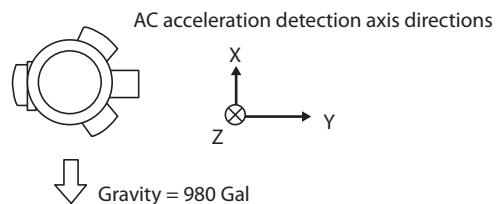

Figure 1B: X-axis FSG measurement ( $\alpha X_{+980}$ )
(2) Position this unit as shown in figure 1B.